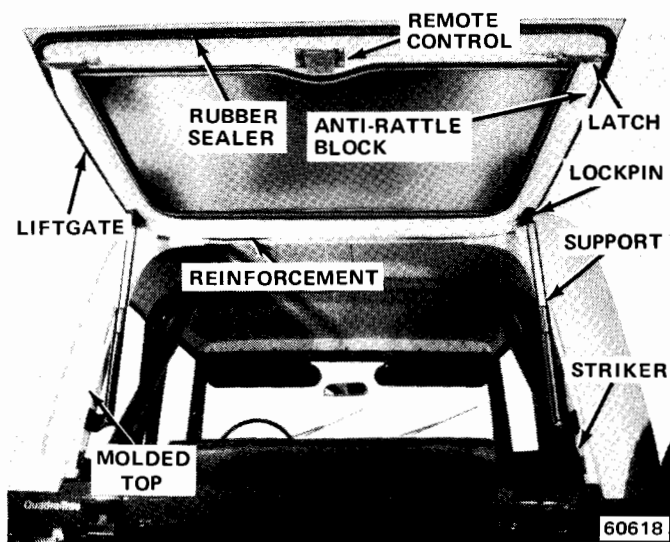

Fig. 20-1 Liftgate Interior Components
(1) Open liftgate, support to prevent closing, and remove lockpins (fig. 20-1) from liftgate support attaching screws.
(2) Remove screws attaching supports to liftgate and fold supports downward.
(1) Loosen screw attaching remove control cable to latch. Disconnect cable from screw.
(2) Remove screws attaching latch (fig. 20-1) to liftgate using Torx Bit Tool J-25359. Remove latch.
(1) Loosen screws attaching remote control cables to latch. Disconnect cables from screws.
(2) Remove screws attaching remote control (fig. 20-1) to liftgate using Torx Bit Tool J-25359.
(3) Position remote control on liftgate and install attaching screws using Torx Bit Tool J-25359.
(4) Connect remote control cables to latch screws and tighten screws.